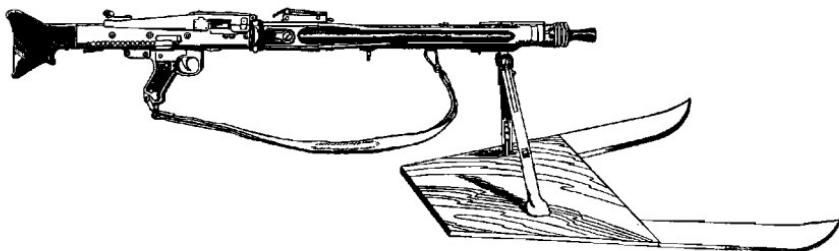

Figure 2.—“Snow Board” Used as a Base for German Light Machine Gun in Firing Position.
FIGURE 2. "Snow Board" Used as a Base for German Light Machine Gun in Firing Position-----	7
(3) *Light Machine Gun.*—The light machine gun is slung on the back. In going into position, the Germans use brushwood or a “snow board” (see fig. 2) for a base. They take care not to disturb, by unnecessary trampling, the snow cover in front of positions. The purpose of this precaution is to avoid recognition by the opposing force.